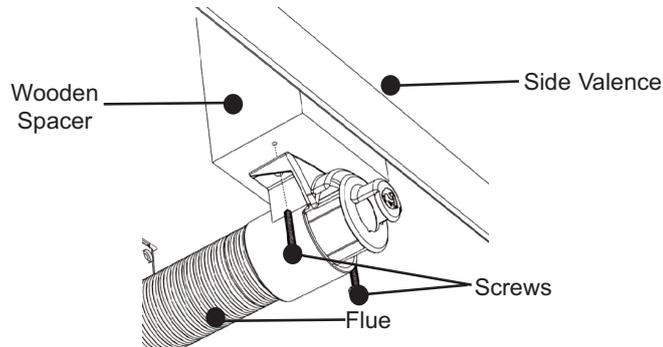

Fig. 16 Attaching the Flue Terminal to the Vehicle
- iv. Push the inlet flue into the rear of the flue terminal (fitted to the vehicle floor). The flue **must be** pushed fully home. Please see Fig. 16. The flue **must be** visible in the flue terminal.